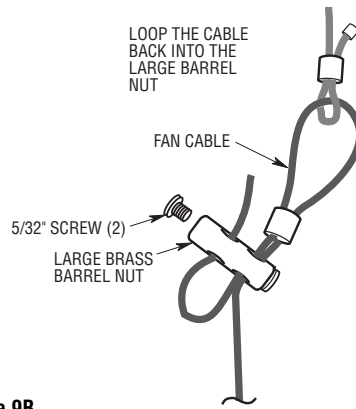

Figure 9B
- 11. Pass the free end of the support cable through the second hole on the large brass barrel nut and pull the cable as tight as possible. Fully tighten the second 5/32" phillips head screw into the end of the brass barrel nut to secure the cable in position (Figure 9B).
- 12. Cut off and discard the excess fan cable protruding from the brass barrel nut (Figure 9B).